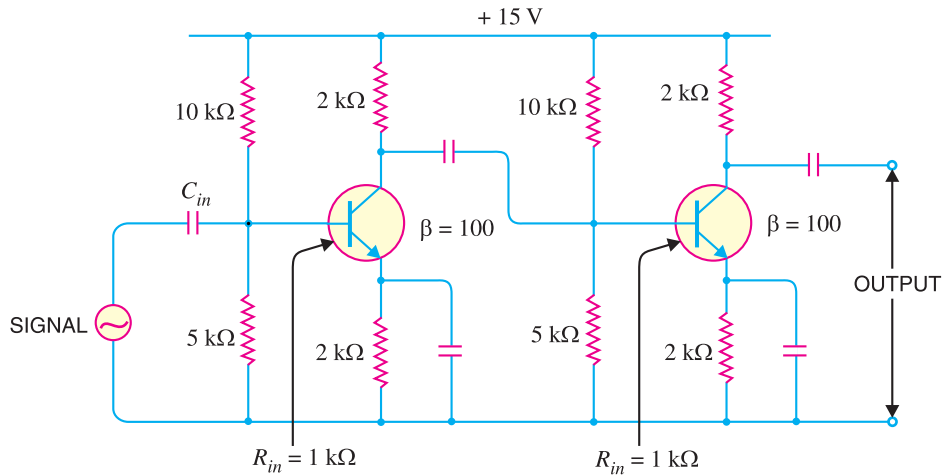

Fig. 11.11
**Example 11.12.** Fig. 11.11 shows two-stage RC coupled amplifier. If the input resistance  $R_{in}$  of each stage is  $1k\Omega$ , find : (i) voltage gain of first stage (ii) voltage gain of second stage (iii) total voltage gain.